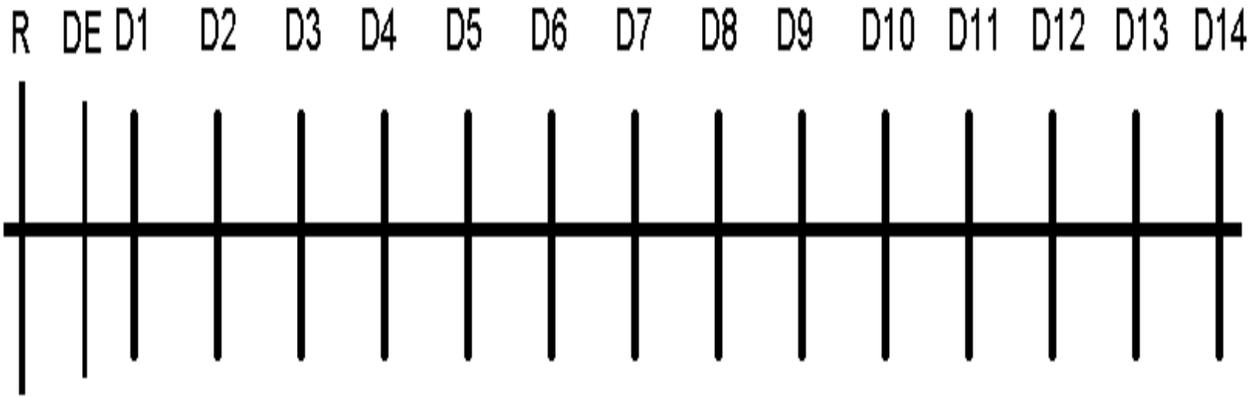

FIGURE 4: ELEMENT NAME DESIGNATIONS
Figure 3 shows a close-up of the driven element end of the antenna. Each of the passive elements (14 directors and one reflector) is $1/8$ in. across (front to rear) and the widths and distances from the driven element (DE) are shown in the table below. The reflector is $2\text{-}1/2$ in. wide and the front edge is positioned $9/16$ in. from the front of the driven element. Refer to Figure 4 for the naming of the elements. The center boom is $1/4$ in. wide.